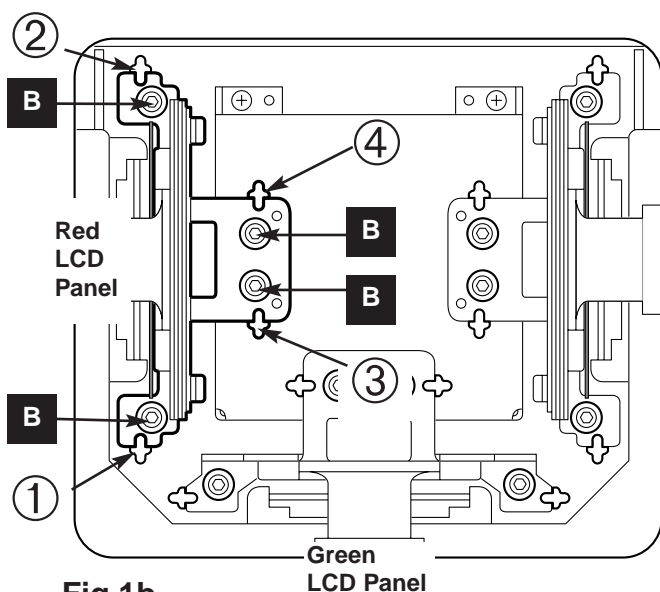
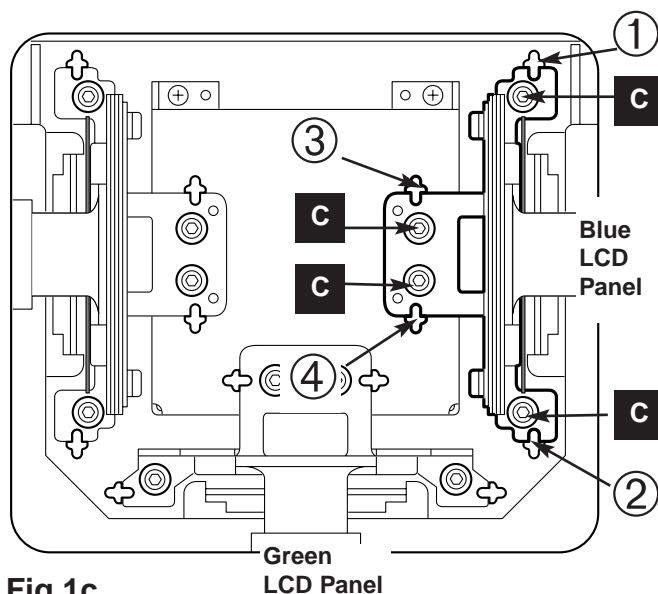
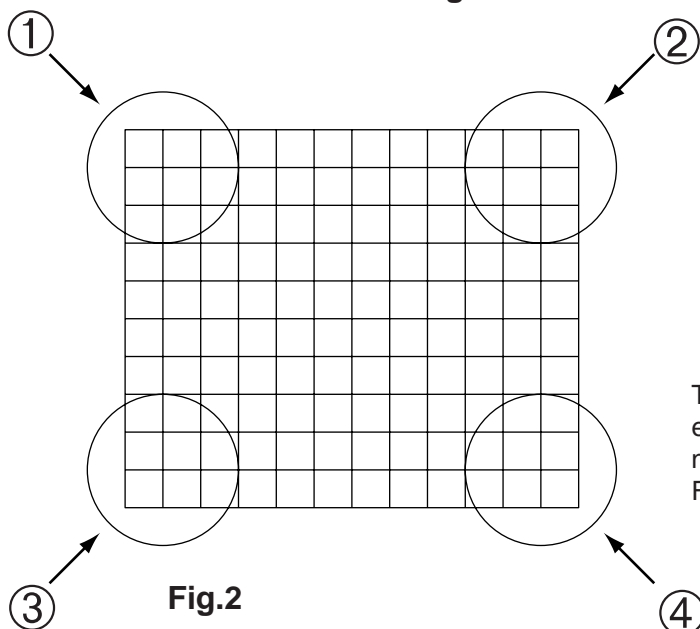

Fig.1b
Fig.1c
Fig.2
5. Insert the slot type screwdriver in the slots ①, ②, ③ and ④ (**Fig.1a**) and gently turn the screwdriver until the each corner of screen is in sharp focus. The relation of adjustment points and screen corners are indicated with ①, ②, ③ and ④ shown in **Fig.1a** and **Fig.2**.
4. Loosen the 4 screws "B" with the 2.0mm hex driver, see **Fig.1b**.
5. Insert the slot type screwdriver in the slots ①, ②, ③ and ④ (**Fig.1b**) and gently turn the screwdriver until the each corner of screen is in sharp focus. The relation of adjustment points and screen corners are indicated with ①, ②, ③ and ④ shown in **Fig.1b** and **Fig.2**.
4. Loosen the 4 screws "C" with the 2.0mm hex driver, see **Fig.1c**.
5. Insert the slot type screwdriver in the slots ①, ②, ③ and ④ (**Fig.1c**) and gently turn the screwdriver until the each corner of screen is in sharp focus. The relation of adjustment points and screen corners are indicated with ①, ②, ③ and ④ shown in **Fig.1c** and **Fig.2**.